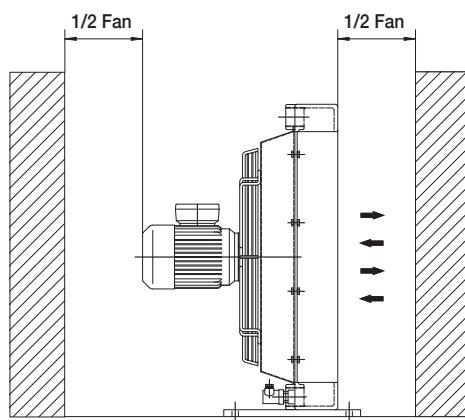

Fig.1
Lo scambiatore deve essere installato in posizione orizzontale e rispettare la distanza minima dalle pareti (vedi fig.1) per assicurare il naturale afflusso dell'aria di raffreddamento.
*The exchanger can be fitted in a horizontal position, respecting the minimum distance from the wall ( see fig. 1 ) so as to ensure a natural flow of cooling air. The exchanger is usually installed on oil tank return piping; it must also be protected from impacts and mechanical vibrations by supports and must be connected to the plant with flexible hoses.*